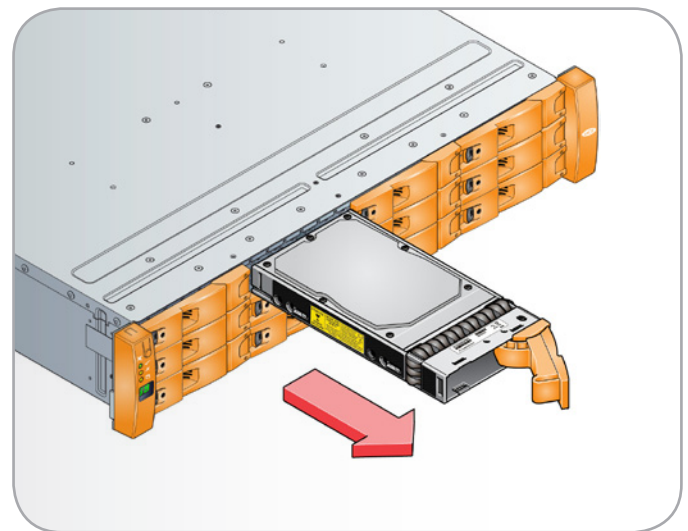

Fig. 89 - Removing a Drive Carrier Module
4. Gently withdraw the Drive Carrier module from the drive slot (Fig. 89).